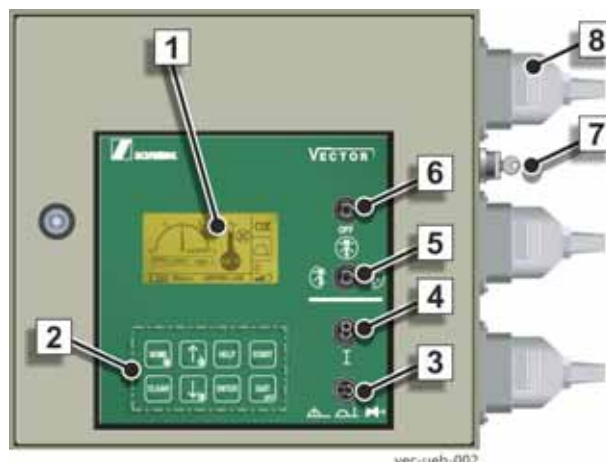

Fig. 52
In order to drive the machine using the local control unit, the plug must always be attached to the transmitter or to the cable remote control on the switch cabinet. See example (8) (Fig. 52).